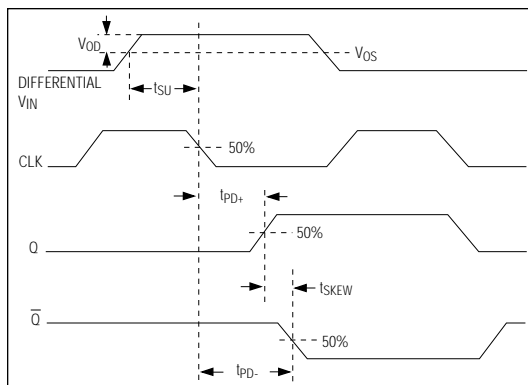

Figure 1. Timing Diagram
**Note 6:** Guaranteed by design. Measured in a high-speed fixture with CL = 15pF, IO = 2mA. See Figure 1 for timing parameter definitions. Guaranteed for both single- and dual-supply operation.
**Note 8:** Propagation delay skew is defined as the difference in tPD for the complementary outputs, Q and  $\bar{Q}$  (see Figure 1).